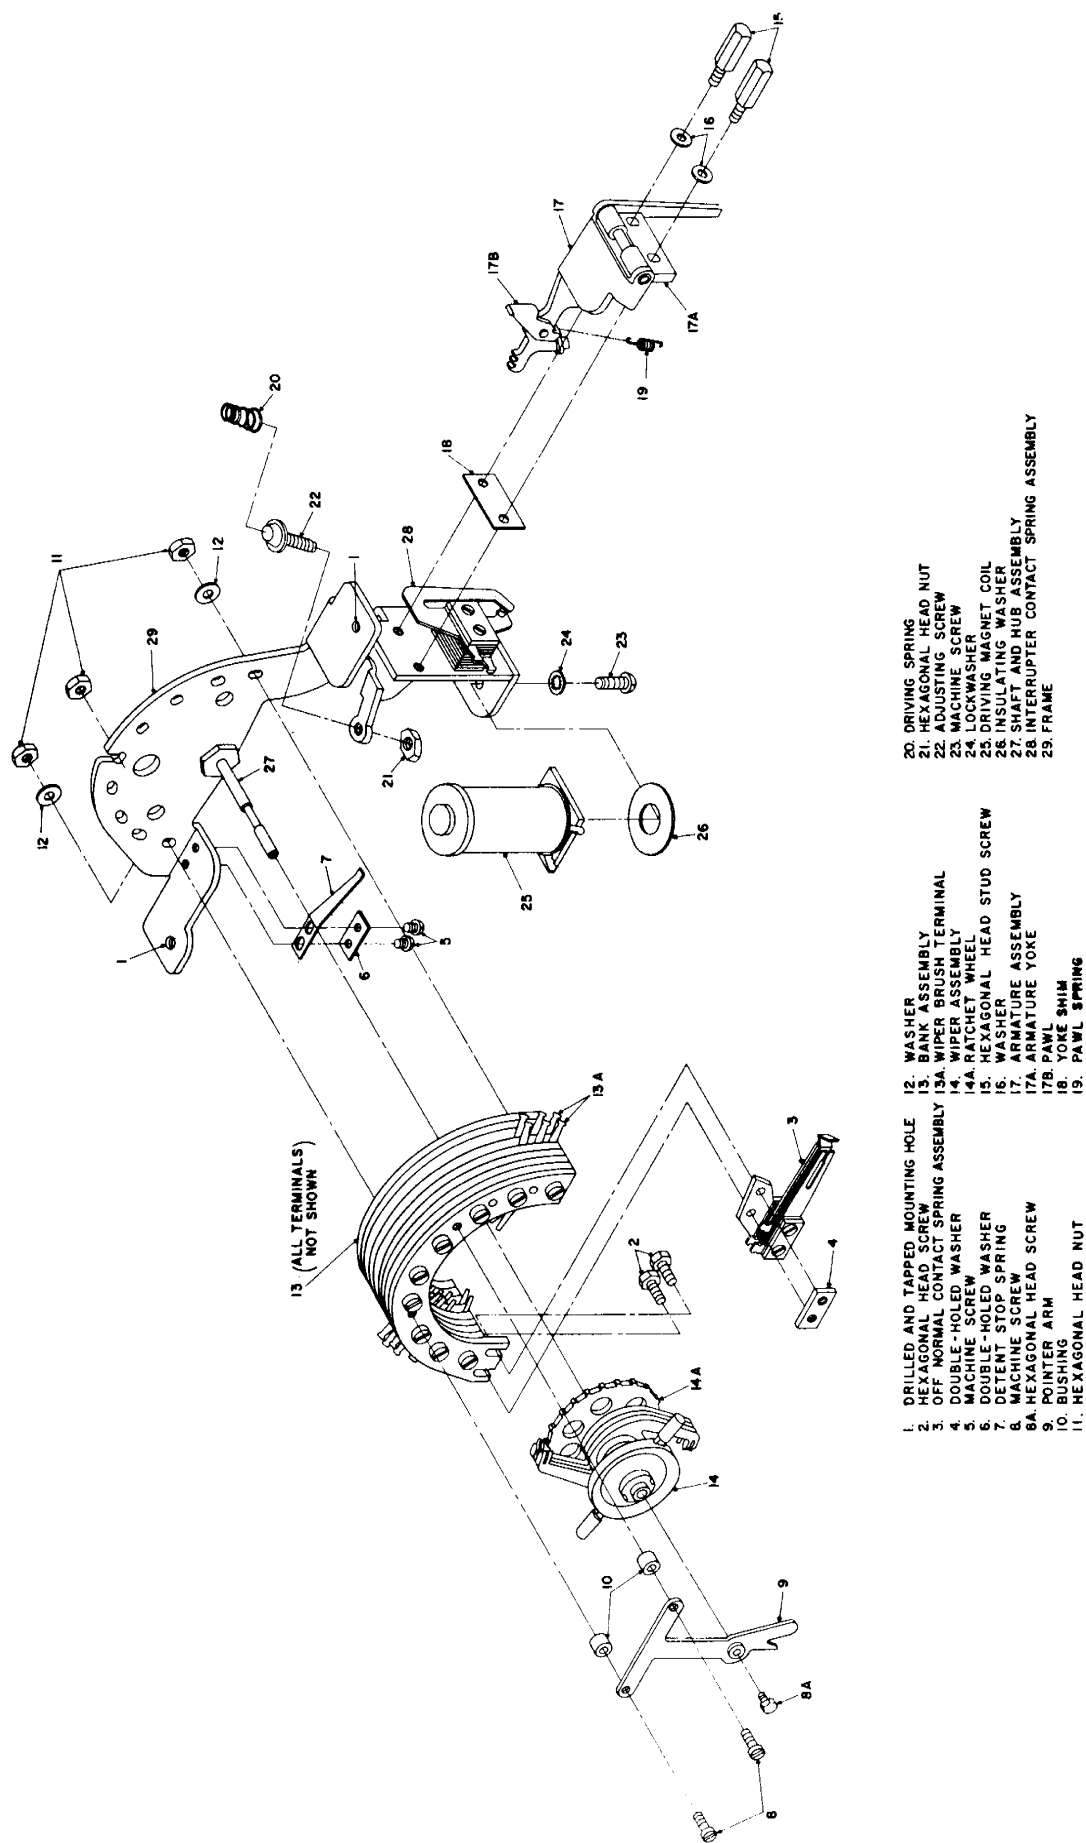

Figure 13. Type 45 rotary switch.
- d. See figure 13 for single-armature relay spring numbering. See figure 19 for double-armature relay spring numbering.
7.4.1 Disassembly (figure 13).
- a. Remove two hexagon-head screws (2) holding off-normal contact spring assembly (3) to bank assembly (13); remove clamp plate (4) and off-normal contact spring assembly (3). Do not attempt to disassemble off-normal contact spring.
- b. Remove two machine screws (5) holding detent stop spring (7); remove double-holed washer (6) and detent stop spring (7).
- c. Remove two machine screws (8) and hexagon head screw (8A) holding pointer arm (9) to wiper assembly (14) and bank assemblies (13); remove pointer arm (9) and two bushings (10).
- d. Remove three 5/16" hexagon-head nuts (11) and two washers (12) holding bank assembly to frame (29).
- e. Pull off wiper assembly (14) and bank assembly (13) simultaneously. Separate the wiper and bank assemblies after they have cleared the frame (29). Do not attempt to disassemble the wiper or bank assemblies.
- f. Remove two 5/16" hexagon-head stud screws (15) and washers (16) holding the armature yoke (17A) to the frame (29); remove the yoke shim (18) and the armature assembly (17). The pawl spring (19) may be removed from the armature assembly (17) for replacement if necessary.
- g. Remove the driving spring (20).
- h. Remove the hexagon-head nut (21) and the adjusting screw (22).
- i. Remove the machine screw (23) and lock-washer (24) holding the driving magnet coil (25); pull out the driving magnet coil (25) and insulating washer (26). Do not attempt to remove the shaft and hub assembly or the interrupter contact springs from the frame.